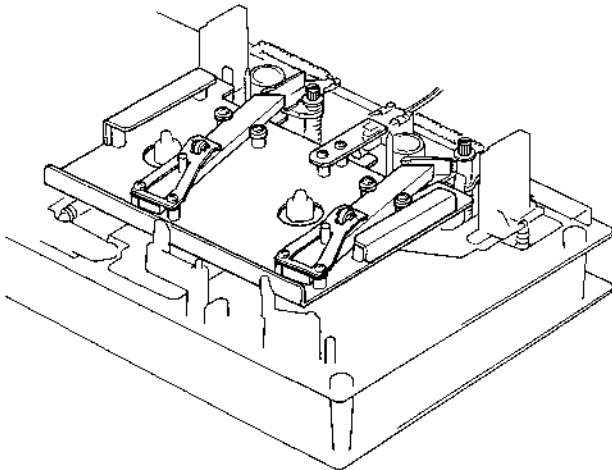

Fig. 4.14
Remove Head Mount Base Ass'y referring to item 2.31. Refer to Figs. 4.14 and 4.15.
(1) Supply Tape Guide Height Adjustment
(2) Take-up Tape Guide Height Adjustment